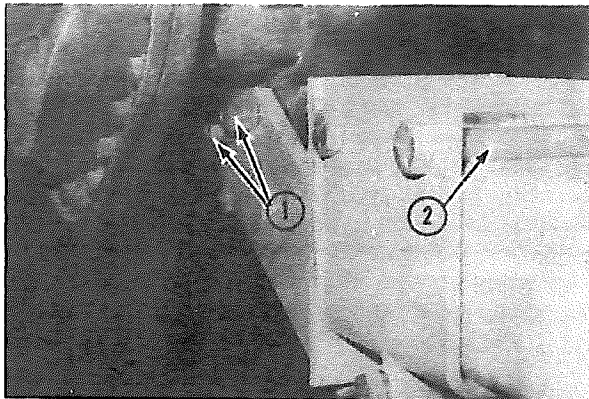

FIG. 10
8. Install $\frac{5}{8}$ " x 5- $\frac{1}{2}$ " bolts in rear bracket saddles (DO NOT TIGHTEN). Install rear bracket as shown in Figure 10 and Figure 11 under the tractor rear end.
12. Unpin subframes from the mainframe arms (not required if overhead hoist is available) and install left and right subframes on the mounting brackets. See Figure 10 and Figure 13. (Go on to step #14 if installing tractor hydraulic system.